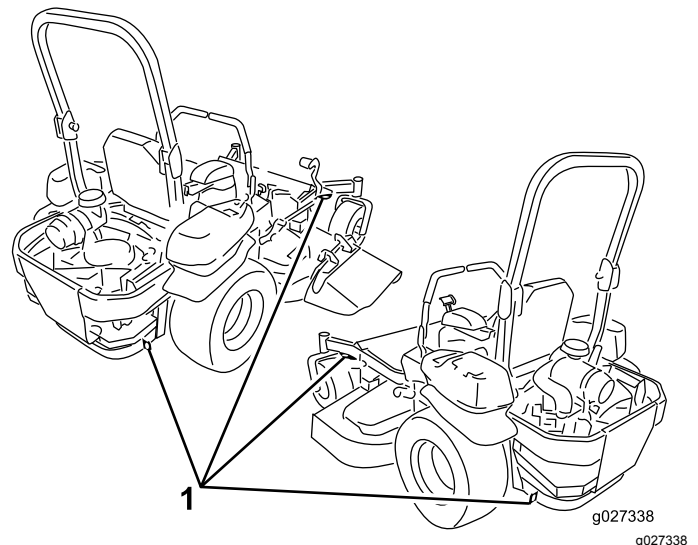

Figure 45
6. Tie down the machine near the front caster wheels and the rear bumper with straps, chains, cable, or ropes (Figure 45). Refer to local regulations for tie-down requirements.